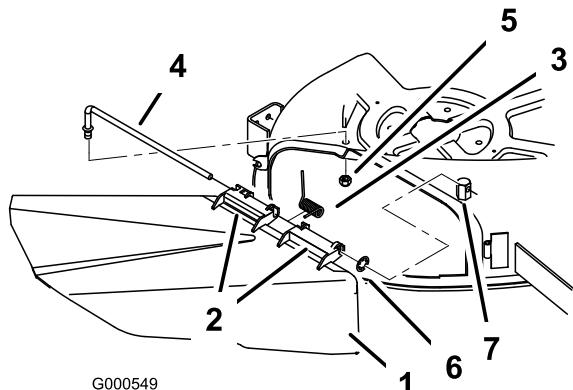

Figure 51
1. Locate items shown in Figure 51.
2. Remove the nut (3/8 inch) from the rod under the mower (Figure 51).
3. Slide the rod out of the short stand-off, internal lock washer, spring, and grass deflector (Figure 51). Remove the damaged or worn grass deflector.
4. Replace the grass deflector and internal lock washer (Figure 51).
Slide rod through second grass deflector bracket and internal lock washer (Figure 51).
- Insert rod at front of grass deflector into short stand-off on deck. Secure rear end of rod into the mower with a nut (3/8 inch) (Figure 51).